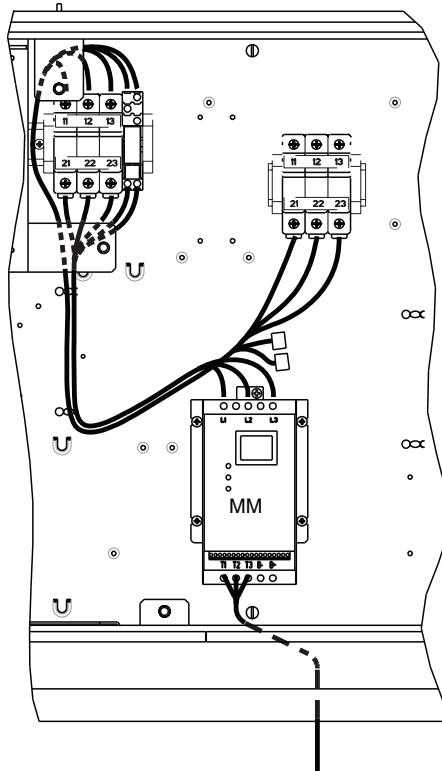

Fig. 9 — Motormaster V Installation Location — 38APD,S025-030 Units
3. Mount Motormaster V controller (Item 25) in location where FC1 was mounted, using 4 AL80AU170 screws (Item 9) provided. See Fig. 9.